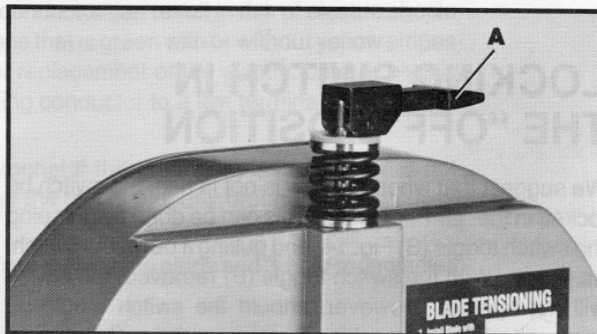

Fig. 18
3. Push tension lever (A) Fig. 18, downward as shown to lock-in tension adjustment.